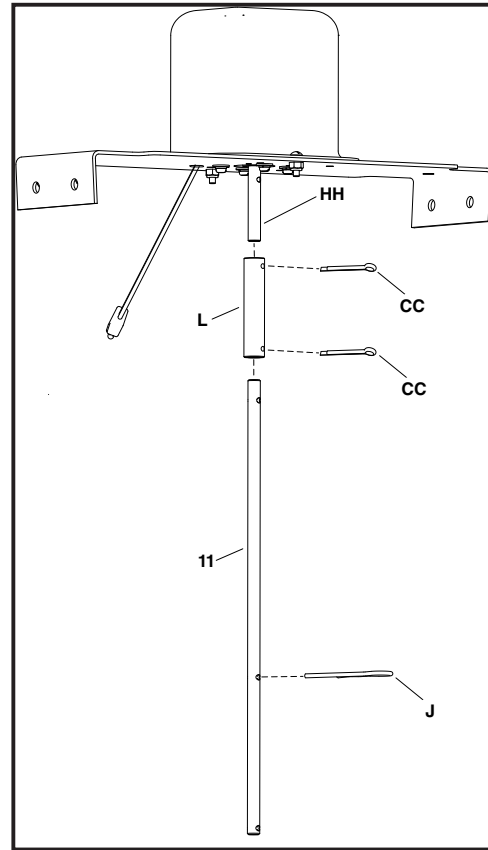

FIGURE 9
STEP 9: (SEE FIGURE 9)
- Slide the impeller coupler (L) onto the motor shaft (HH) lining up the top hole of the coupler with the hole in the shaft.
- Install one cotter pin (CC) through the top hole of the coupler and then split the ends of the cotter pin.
- Slide the impeller shaft (11) into the other end of the impeller coupler (L) and lining up the top hole of the impeller shaft (11) with the hole on the coupler.
- Install one cotter pin (CC) through the bottom hole of the coupler and then split the ends of the cotter pin.
- Install the agitator hairpin into the impeller shafts (11) middle hole.